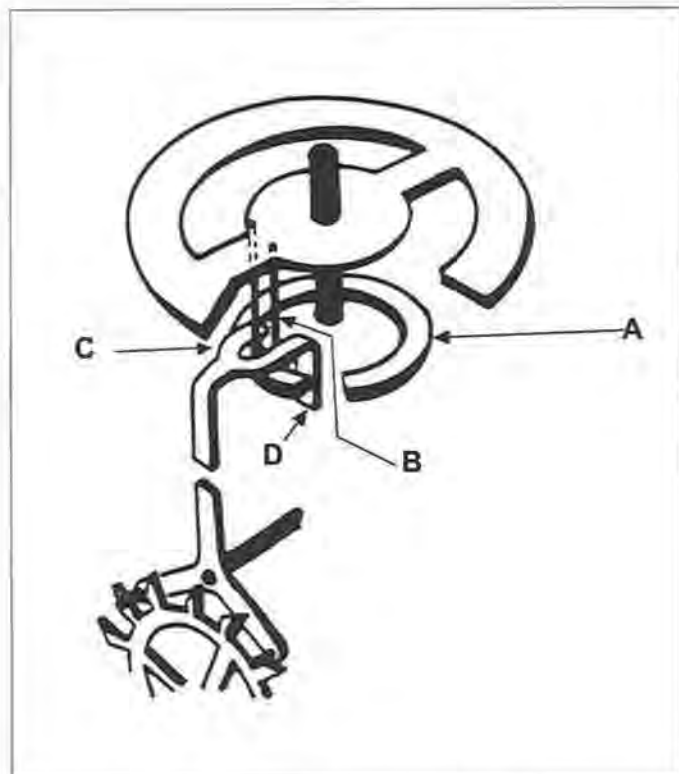

Figure 4. Floating Balance Escapement Detail
of operation are basically the same. As illustrated in Figure 4, the escapement is made up of a roller that is a flat "C" shaped ring of about 330 degrees (A), and two highly polished steel impulse pins (B). The upper end of the pins are fitted into the bottom of the balance wheel hub near its center, while the lower ends are attached to the "C" shaped ring to hold the ring suspended from the rest of the balance assembly. Impulse is furnished close to the center of oscillation, which is necessary in this type of escapement. The fork slot end of the pin lever pallet (C) is set at right angles to permit the slot to engage with the impulse pins while the pallets operate on a vertical plane. One fork arm (D) is made longer than the other to serve as a guard. A part of this arm is bent parallel to the lever and extends down beside the "C" shaped ring to provide safety action to the escapement. As the balance turns, the long (bent) arm passes in through the gap in the "C" shaped ring providing safety at the inside surface of the ring, as illustrated in Figure 5. Banking is provided by having the lever operate between two pins that are extended out from the balance bracket. As the balance wheel oscillates, one half of the helical spring expands while the other half contracts an equal amount. This eliminates the tendency of the balance to travel up or down on the wire, so it will always rotate in the same plane.